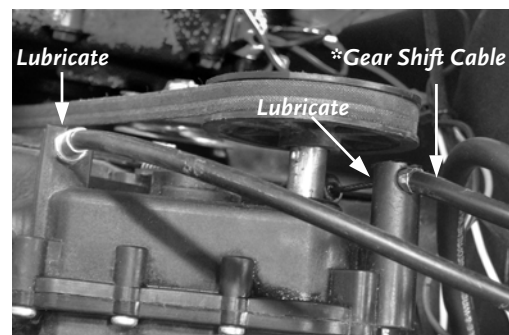
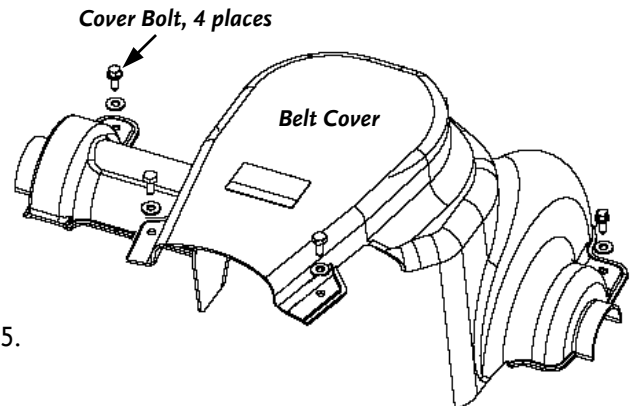

Figure 17
Figure 19
2. Perform this lubrication at both ends of the cables. The *Drive Clutch Cable and *Gear Shift Cable are shown in **Figure 17**. Remove the *Drive Belt Cover (**Figure 19** on page 33) using a 7/16" Socket with a 6" Extension to remove the four (4) 1/4" Cover Bolts.
2. Remove the Belt Cover using a 7/16" Socket with a 6" Extension to remove the four (4) 1/4" Cover Bolts (**Figure 19**).
1. Remove the Belt Cover using a 7/16" Socket with a 6" Extension to remove the four (4) 1/4" Cover Bolts (**Figure 19** on page 33).
2. Remove the Belt Cover using a 7/16" Socket with a 6" Extension to remove the four (4) 1/4" Cover Bolts (**Figure 19** on page 33).